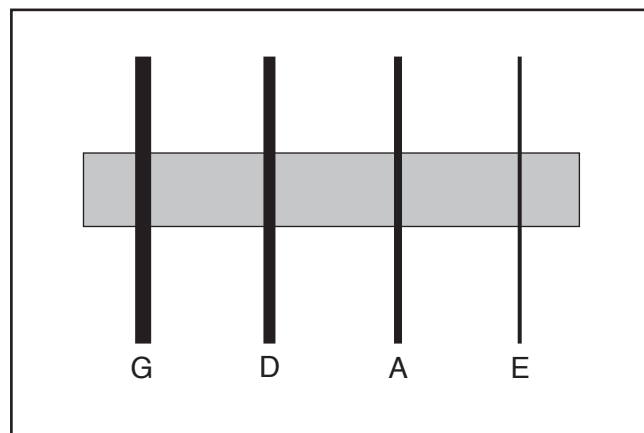

Figure 23. Installing strings in proper position.
Each string of the violin is a different diameter. The arrangement of the strings on the violin is shown in **Figure 23**.
1. Refer to **Figure 23** for string order.